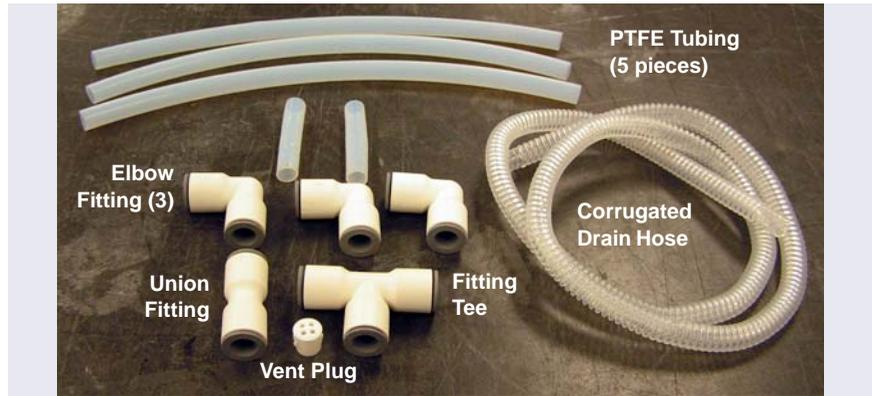

Figure 3-29. Low-Temperature DC Drain Line Parts
1. Locate the drain line parts in the low-temperature DC Ship Kit (P/N 22171-62000) (see Table 3-3 and Figure 3-29):